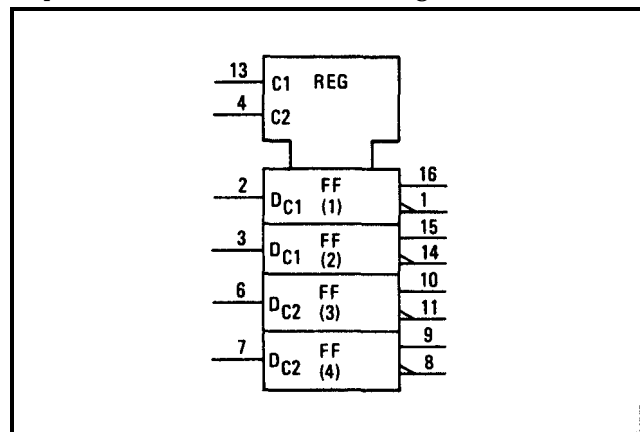

**Figure 8-4. Dual D-Type Flip-Flop**
**8-33. Dual D-Type Flip-Flop.** The dual D-type flip-flop shown in Figure 8-4 consists of two